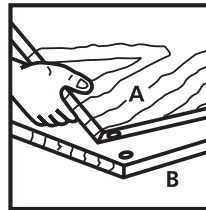

Figure 1
- Align two boards in their finished position and mark them "A" and "B". See Figure 1.